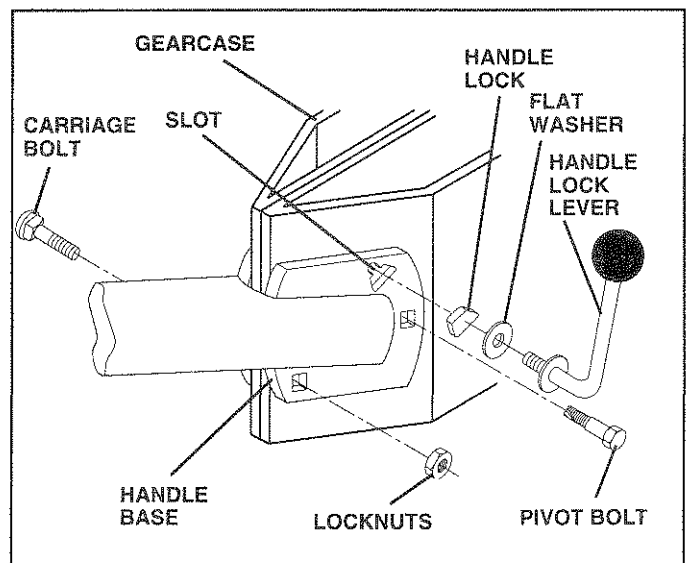

FIG. 5
- Rotate handle assembly down. Insert rear carriage bolt first, with head of bolt on L.H. side of tiller (Fig. 5).